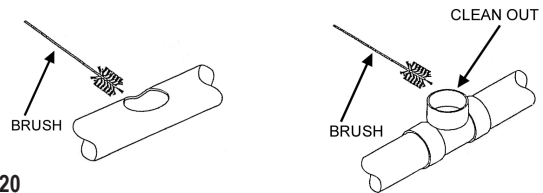

Figure 20
- Close gray recirculation valve (2) all the way. (0%)
- Rotate blue aeration valve (1) back and forth from the 0% to the 100% position several times to flush.
- Set valves (1) and (2) back to the appropriate positions. (See Recirculation Flow Adjustment, pg. 10)
(B) Water flushing procedure: (See Fig. 20)
- Close valve (2) all the way.
- Connect a water line to the aeration line after the switching valve, as shown in Fig. 20.